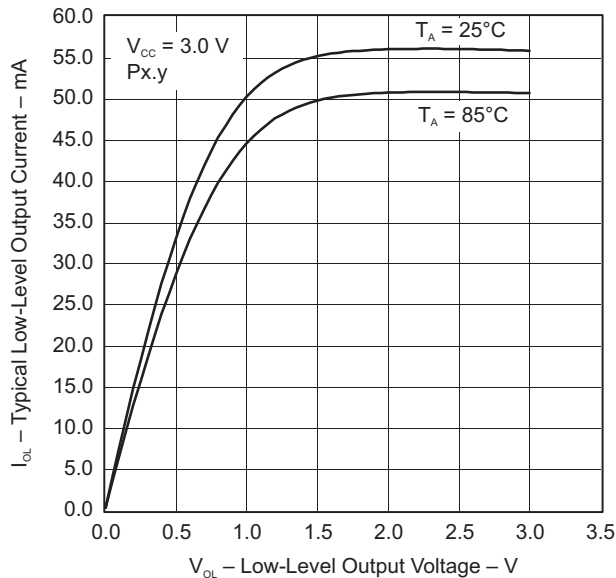
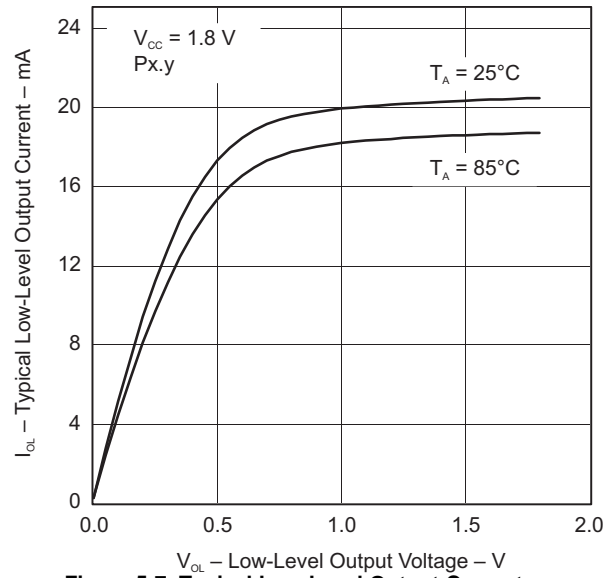

Figure 5-6. Typical Low-Level Output Current vs Low-Level Output Voltage
Figure 5-7. Typical Low-Level Output Current vs Low-Level Output Voltage
| V OL Low-level output voltage(see Figure 5-6 and Figure 5-7)  | I (OLmax) = 3 mA (1)   | 1.8 V           | V SS        | V SS + 0.25 | V    |